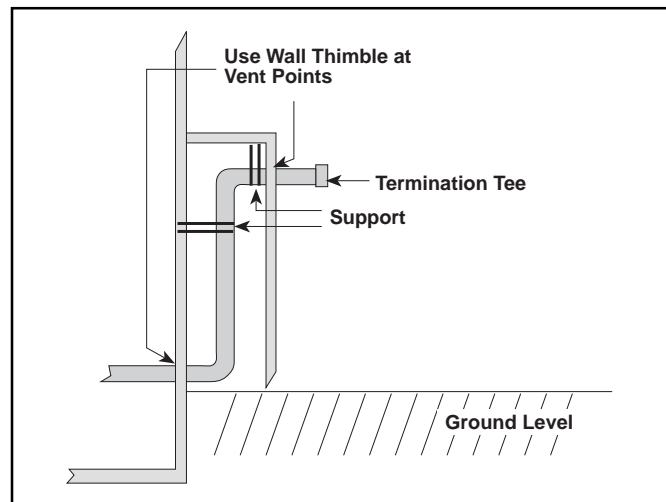

Figure 16. Alternate Horizontal Vent Installation
1. The termination tee must be 12 inches above snow level or grade level whichever is higher. See Figure 16 for alternate method to achieve 12" above snow level.